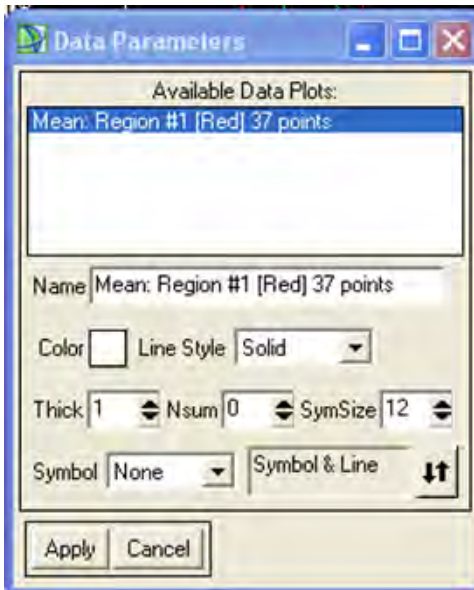

Figure 45. Data Parameters Window
6. The Data Parameters Window opens. From here you can (see Figure 45)